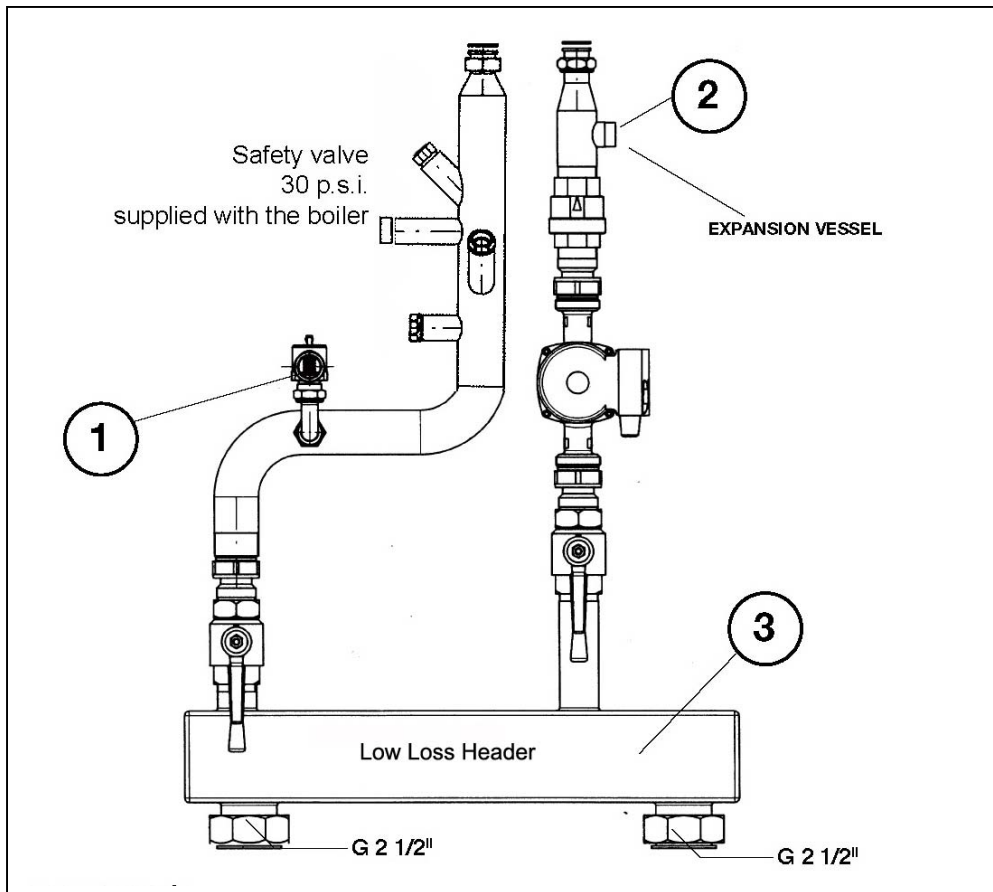

Figure 3: Installing components
Install the safety valve, provided in the boiler, to its fitting (ref. 1 Figure 3) with the G 3/4" elbow. Mount the safety valve outlet to a siphon drain pipe.
The expansion vessel (not supplied with the kit) must be dimensioned for the overall capacity of the installation in the normal way, and connected to the check valve (ref. 2 Figure 3).
The low loss header supplied with the hydronic package separates the heating plant circulation so as to keep a constant flow of water in the boiler independently of losses of load (ref. 3 Figure 3).